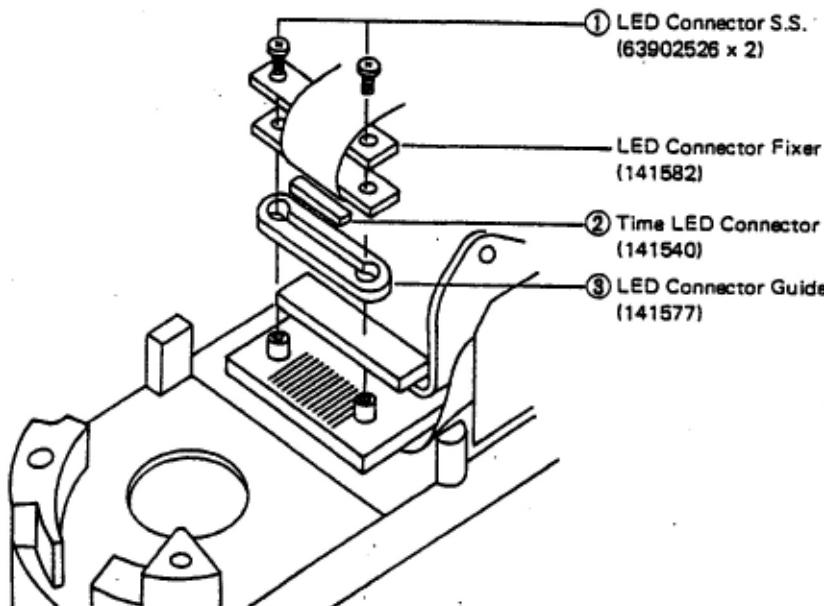

Fig. 61
- e) Remove the respective parts ① ~ ③ shown in (fig. 61) in numerical order.